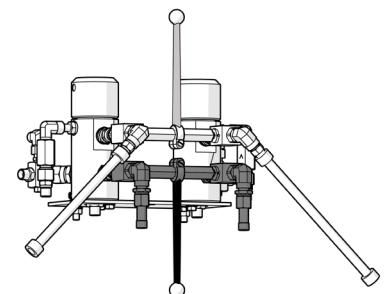
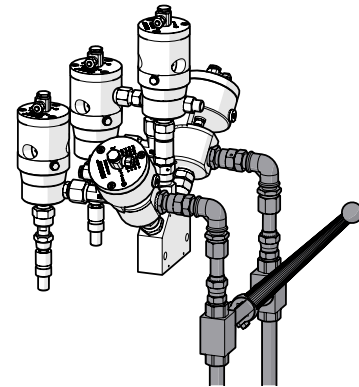

Fig. 47: Ratio check unit on the high pressure filter
Fig. 48: Ratio check unit on the mixing unit
- If the machine is equipped with a mixing unit on the frame, the ratio check unit is either fitted at the high pressure filter (see Fig. 47) or at the mixing unit (see Fig. 48).